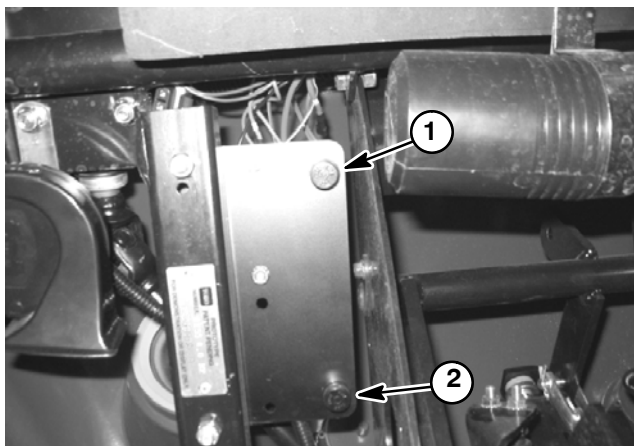

Figure 34
Two (2) of the fuses are located beneath the steering column (Fig. 34). These fuses supply power to the following: